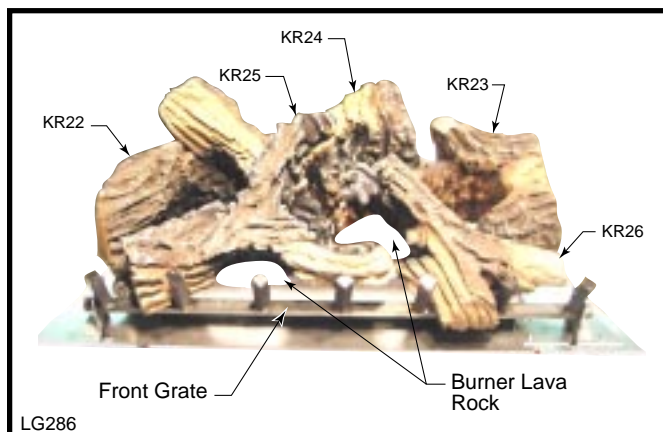

Fig. 19 LHEC30 log and lava rock placement.
LHEC30 (Fig. 19)
- Place the rear center log (KR24). Use the log's bottom holes to locate it onto the two (2) pin studs of the rear log bracket on the center.
- Place rear left log (KR22). Use the log's bottom holes to locate it onto the two (2) pin studs of the rear log bracket on the left.
- Place rear right log (KR23). Use the log's bottom holes to locate it onto the two (2) pin studs of the rear log bracket on the right.
- Place the burner lava rock on the front area of the burner housing. (Fig. 19)